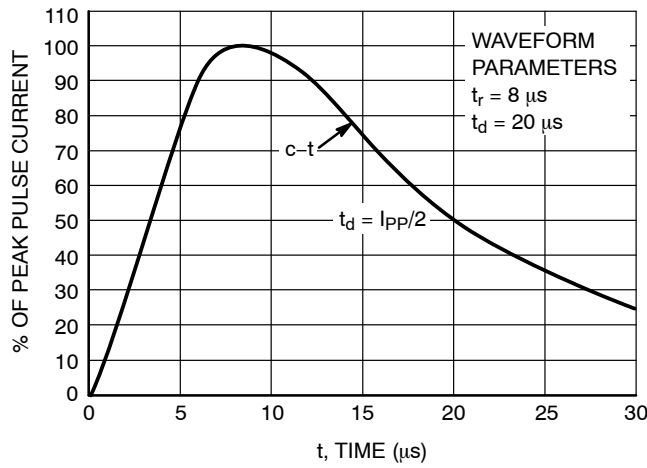

Figure 1. Pulse Waveform, $8 \times 20 \mu\text{s}$
1. Non-repetitive current pulse per Figure 1.
4. Pulse waveform per Figure 1.